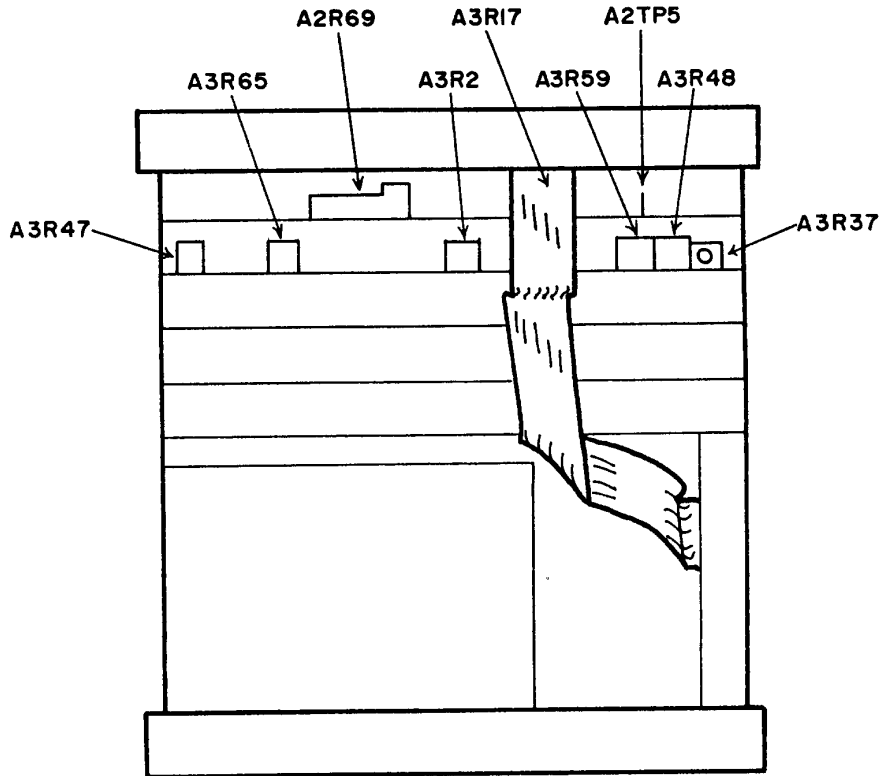

Figure 1. Models 436A and 436AOPT9/22 - adjustment locations.
(1) Set range calibrator **RANGE** switch to **100 mW** and **FUNCTION** switch to **CALIBRATE**. Verify that TI autoranges to 100 mW range, then set the **RANGE HOLD** pushbutton to on (in).
(2) Set range calibrator **FUNCTION** switch to **STANDBY**.
(3) Adjust **DC OFF** potentiometer A3R2 (fig. 1) for a digital readout of **00.0** with a blinking minus sign (R).
(4) Set **RANGE HOLD** pushbutton to off (out).
(5) Verify that TI autoranges to 10 μW range.
(6) Press and hold **SENSOR ZERO** pushbutton and adjust **ZERO OFF** potentiometer A3R47 (fig. 1) until digital readout indicates **0.00** with blinking minus sign (R).
(7) Set range calibrator **FUNCTION** switch to **CALIBRATE** and **RANGE** switch to **100 μW** .
(8) Adjust TI front-panel **CAL ADJ** control until digital readout indicates **100 μW** .
(9) Press and hold **SENSOR ZERO** pushbutton and adjust **BAL** potentiometer A3R65 (fig. 1) until display readout indicates **60.0 μW** (R).
(10) Set range calibrator **FUNCTION** switch to **STANDBY**. Press **SENSOR ZERO** pushbutton and wait for digital readout to stabilize.
(11) Press **SENSOR ZERO** pushbutton and wait for display readout to stabilize. Release **SENSOR ZERO** pushbutton and wait for **ZERO** light to extinguish.